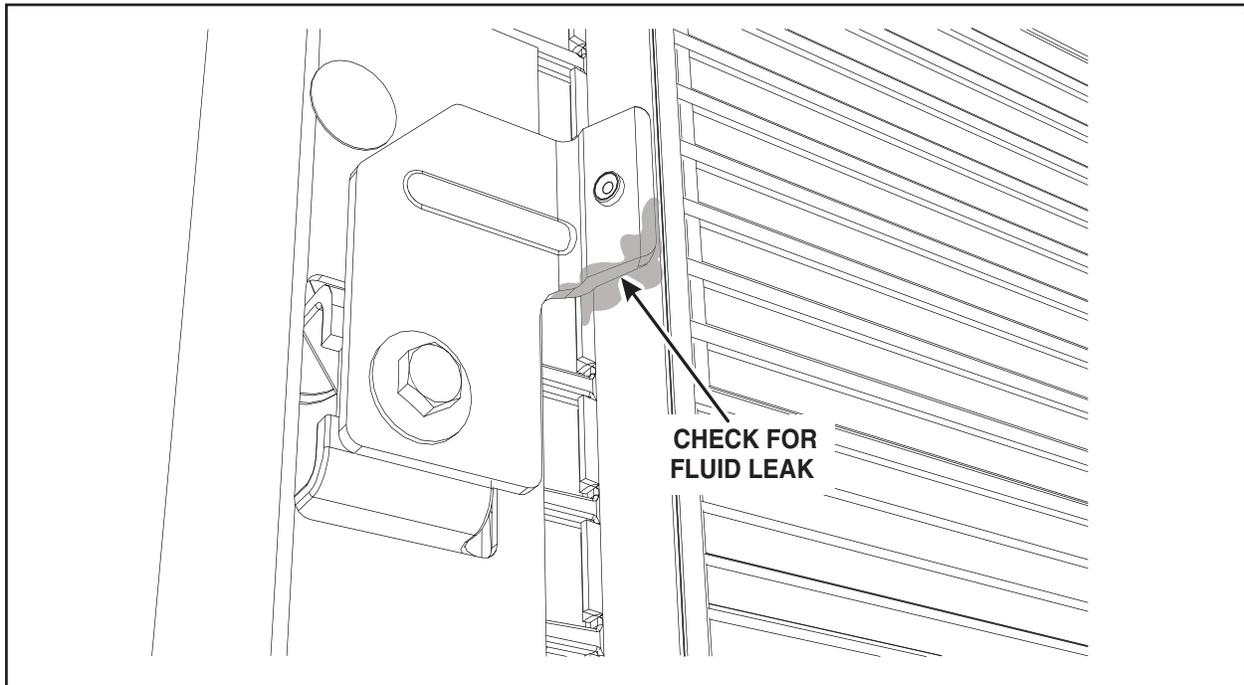

FIGURE 4
5. Using a clean white paper towel, wipe the transmission fluid cooler tube below the RH mounting bracket and check for a fluid leak. See Figure 4.